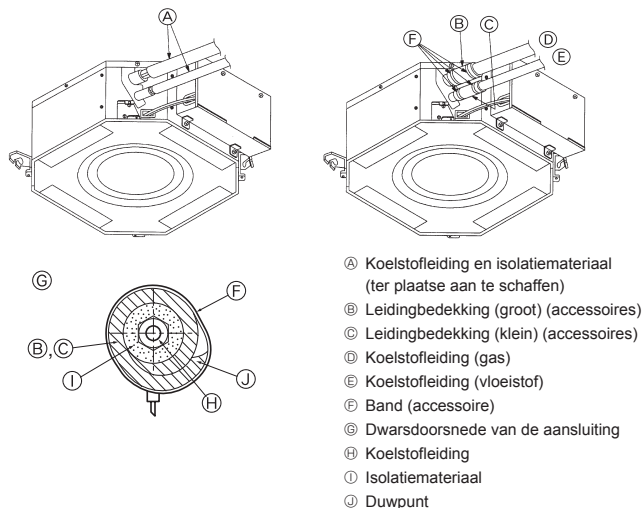

Fig. 3-3
3.3. Binnenapparaat (Fig. 3-3)